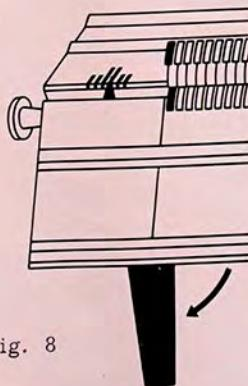
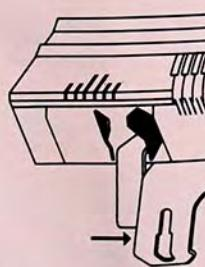

Fig. 8
Fig. 9
8. Bring racking lever into position, fig. 8 : press slightly backwards, then move to left until catch engages as shown in fig. 9. Now move lever twice to left until indicator points to third racking position (fig. 8).